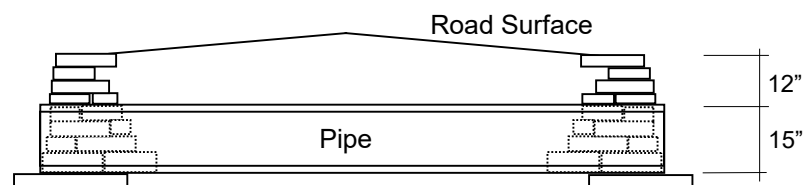

Figure 3: Longitudinal Section of Pipe Installation.
- Headwalls and endwalls should be built high enough to support the full depth of pipe cover recommended by the manufacture, typically 12" for both plastic and corrugated steel pipe 48" in diameter and smaller (Figure 3).